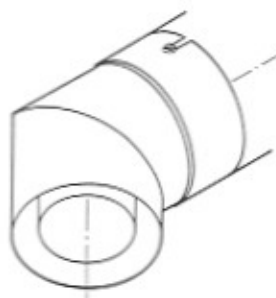

Figure 13
Step 4. Attach the outer 45° elbow over the outer appliance collar until back of slot contacts screw. Tighten screw to secure outer elbow (Figure 13).